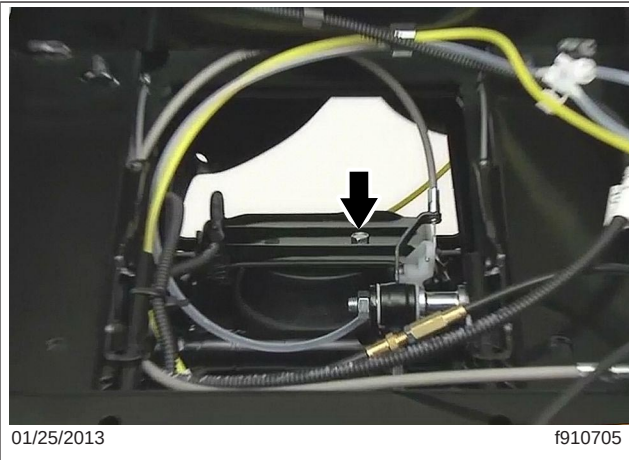

Fig. 5, Air Spring Capscrew
9. Lift the suspension skirt (if equipped) up at the rear of the seat, and remove the screw that attaches the top of the air spring to the air spring bracket. See Fig. 5.
14. Attach the air spring to the top bracket with the screw. See Fig. 5. Tighten the screw 44 lbf·in (500 N·cm).